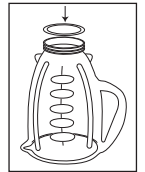

Fig1
1. Turn jar upside down so the small opening is at the top. Then place sealing ring over jar opening. (Fig.1)